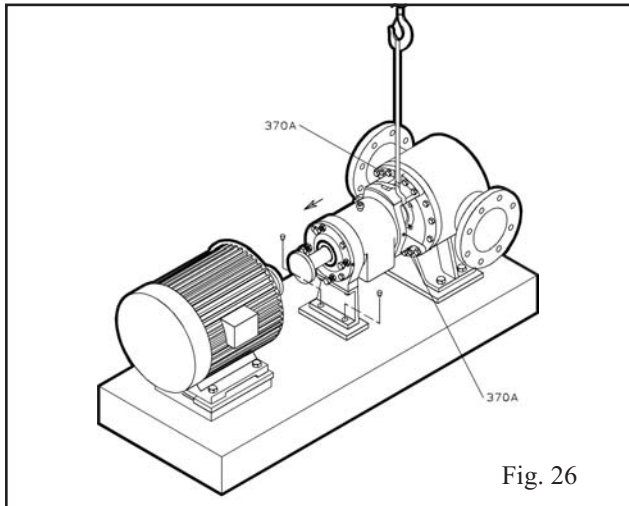

Fig. 26
1. Place sling from hoist around bearing frame (228) (Fig. 26).
3. Remove six (6) casing bolts (370A, casing- to-seal chamber) and eight (8) casing bolts (469Z, frame-to-seal chamber to casing) (Fig. 26).
4. Use jack bolts (418) to remove the back pullout.